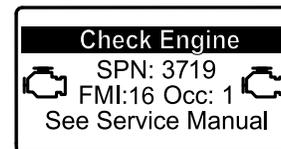

Figure 35
- If a parked regeneration is needed, the InfoCenter displays engine warning SPN 3719, FMI 16 (Figure 35) and the engine computer derates engine power to 85%.